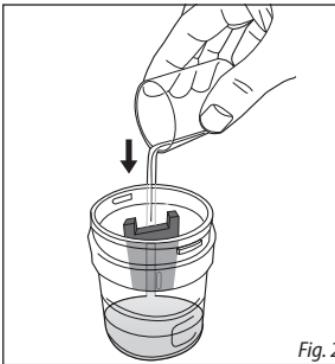

Fig. 2
Step 2: Pour the medication into the nebulizer cup following the physician prescribed dosage, Fig 2.